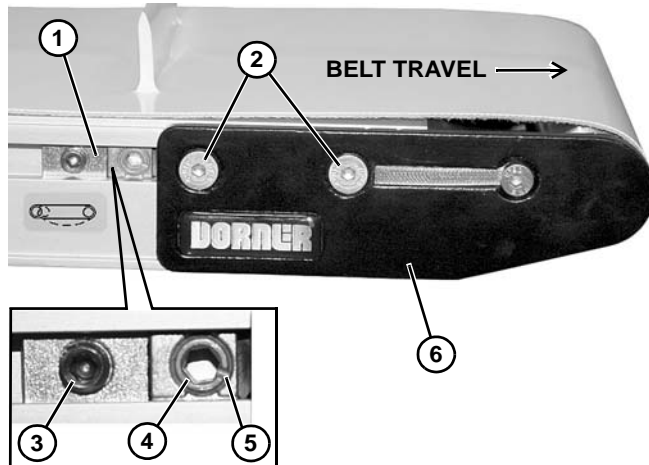

Figure 80
Non V-guided belt conveyors are equipped with belt tracking cam assemblies (**Figure 80, item 1**) for belt tracking adjustment.
1. Ensure head plate fastening screws (**Figure 80, item 2**) on both sides of conveyor are tightened.
2. On both sides of conveyor, loosen cam fastening screw (**Figure 80, item 3**). Adjust cams (**Figure 80, item 4**) until indicator slots (**Figure 80, item 5**) are horizontal and facing end of conveyor. Then slide cam assemblies against head plates (**Figure 80, item 6**) and re-tighten cam fastening screws (**Figure 80, item 3**) to 60 in-lb (7 Nm).
3. On the side toward which the belt is tracking, loosen head plate fastening screws (**Figure 80, item 2**).
4. With the conveyor running, use a 5 mm hex-key wrench to rotate the tracking cam (**Figure 80, item 4**) in small increments until the belt tracks in the center of the conveyor. Then while holding the cam in position, re-tighten the head plate fastening screws (**Figure 80, item 2**) with a 4 mm hex-key wrench to 60 in-lb (7 Nm).